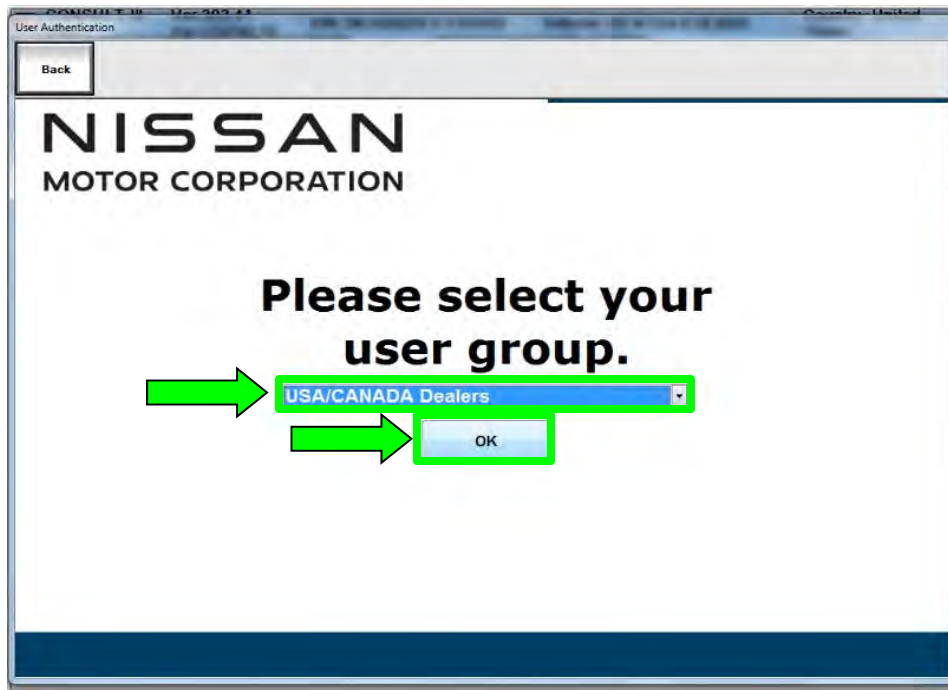

Figure 22
- The screen in Figure 22 may not display if the CONSULT PC has remained ON since the last reprogramming.